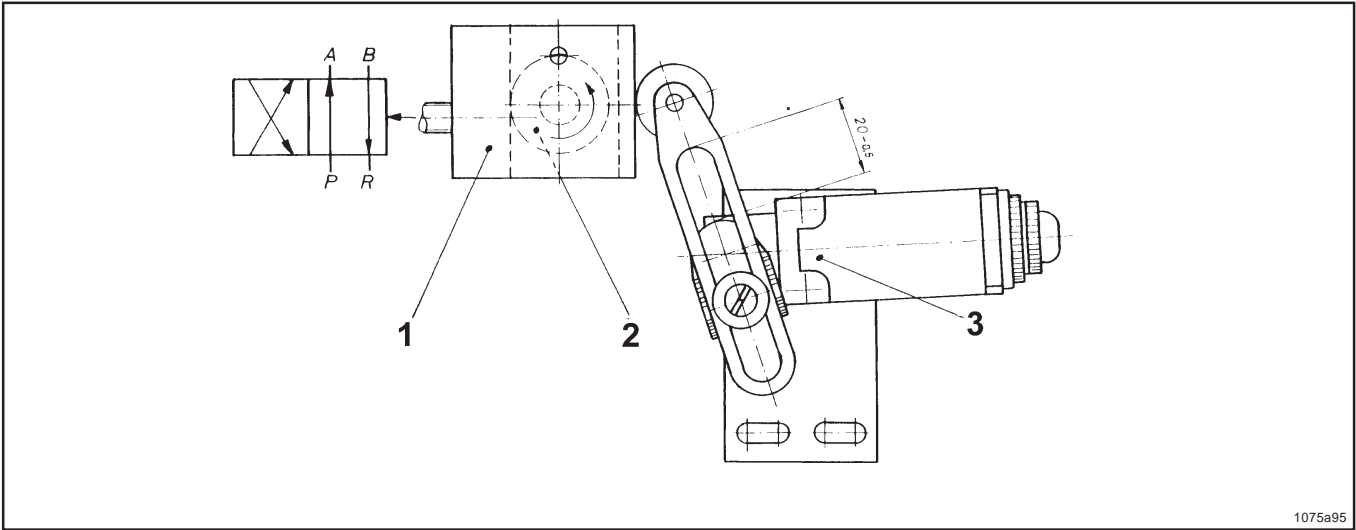

Fig. 9: piston final position 1
| <ul style="list-style-type: none"> • Cause: • The switching point of the position switch is not reached | <ul style="list-style-type: none"> • Remedy: • Check the adjusted value of 20_{-0.5} and re-adjust it, if necessary. • Check the adjustments shown on Fig. 9 - 11 see remedy at following fault: "The line which has been charged after the reversing process is not relieved " |
- Check adjustment shown on Fig. 9:
Piston final position 1: the outer edge of the ball bearing must be centered in the borehole of the connecting link and must be visible (in the case of old models without borehole in the connecting link, the distance between the upper outer edges of the ball bearing as shown on Fig. 9 and the connecting link must be 8^{+1} mm).